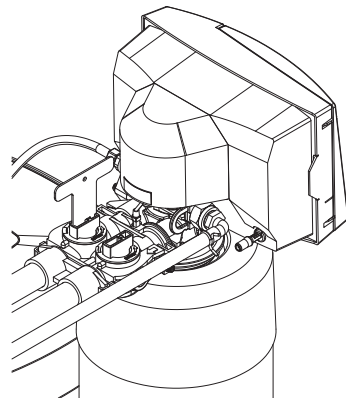

Figure 7
- Move the bypass valve handles to the service position. The valve handles should be parallel to the pipes (see figure 7).
**Important Note:** All air should be purged from the bypass valve. To purge any trapped air from the bypass seal pocket, open and close the bypass valve two (2) to three (3) and allow the water to run from the system.